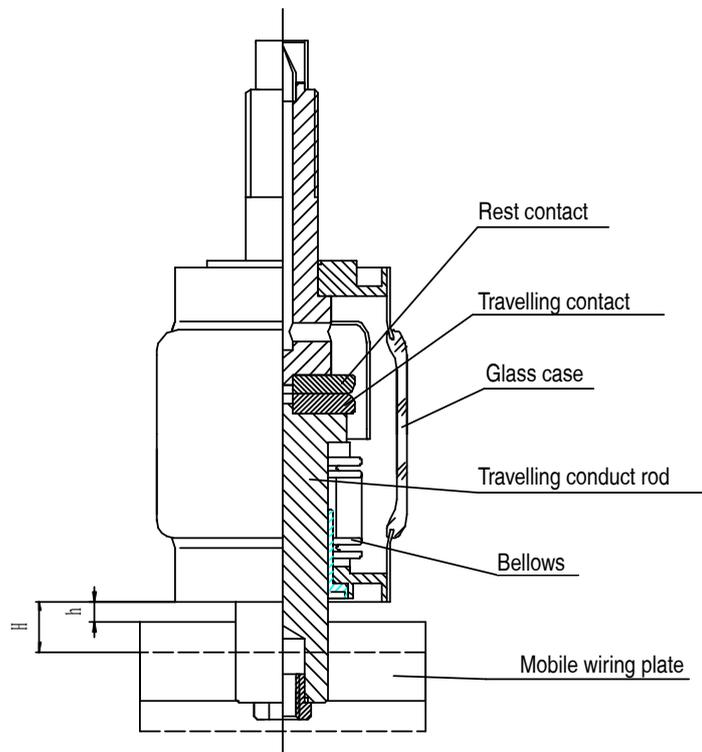

Fig. 1
Inside the vacuum switch tube of the glass or ceramic enclosure is installed one pair of contacts, made of wear-resistant and low current-cutting off material (see Fig.1), which can satisfy both the breaking performance and reducing the over-voltage caused due to the cutoff current, and raise the lifetime of the switch tube. Bellow inside the switch tube has the function of separating the atmospheric air and making the moving contacts to be able to make axial motion, thus cannot rotate the moving conducting rod; otherwise the bellow will be damaged due to the twist of the rod.
- a. Please see the technical parameters for the stroke of main contact of the vacuum switch tube; and see Fig.1 for the measuring method. Measure the distance h between the moving wiring board and the enclosure when it is under closed state, and then make the contactor be under released state, and measure the distance H between the moving wiring board and the enclosure. The difference of $H-h$ is the stroke. When the contactor leaves the factory for delivery, the total travel and stroke has been adjusted. It does not need to be adjusted again in general condition.